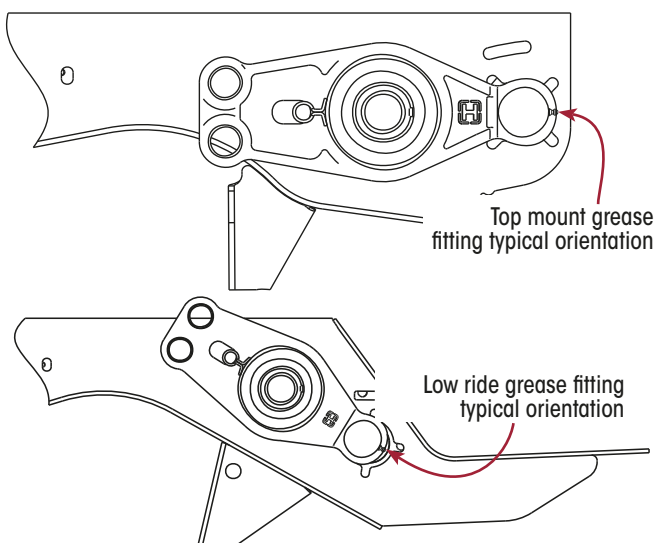

Figure 73: INTRAAX Accessible Grease Fitting Orientation
4. Rotate the cam tube so the grease fitting is accessible (either pointing downward or to the rear) when the drums are installed (refer to Figure 73).
2. Rotate the cam tube so the grease fitting is accessible and pointing rearward (refer to Figure 73).